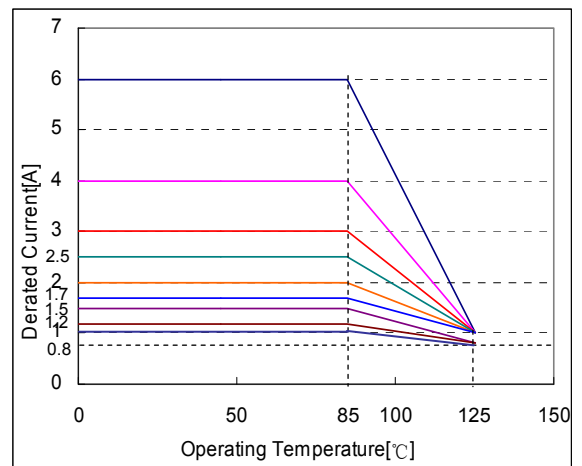

**Fig. 5.3.3-1**
- d. Definition of Rated Current (Ir): Ir is direct electric current as chip surface temperature raises just 20℃. against chip initial surface temperature(Ta). (see **Fig. 5.3.3-2**):